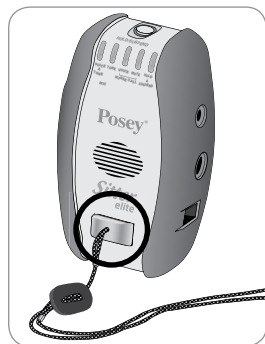

Fig. 31
**ALWAYS** check magnet when connecting it to a Posey alarm. You can check a magnet by removing it from the face plate of the alarm (Fig. 31). When the magnet is disengaged, the alarm should sound. **DO NOT** use the alarm or magnet if alarm does not activate each time magnet is removed from face plate.